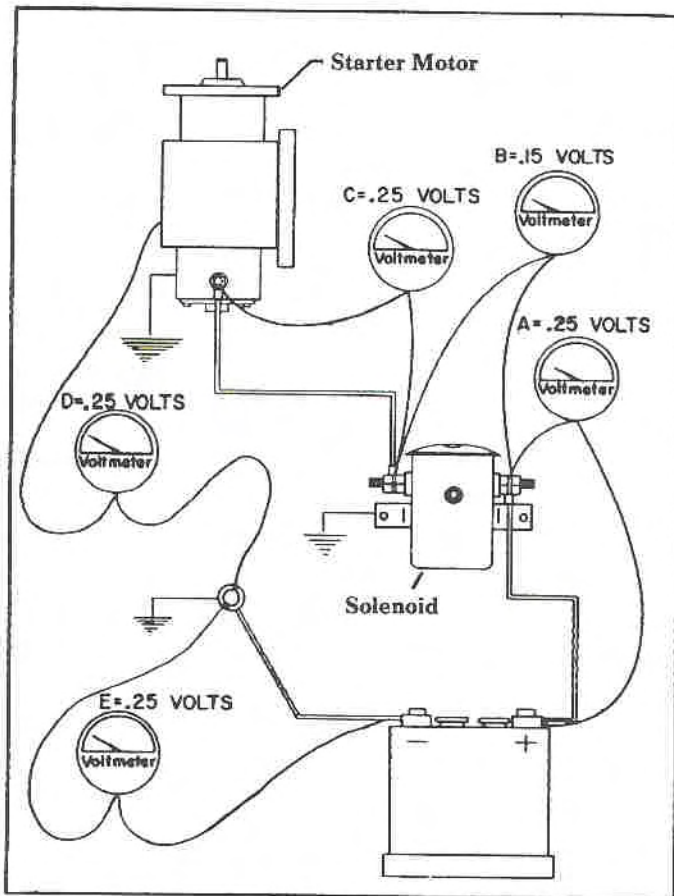

Fig. 4
1. By making a systematic check from the positive battery terminal through the starting circuit and back to the negative battery terminal, any component or electrical connection having excessive resistance, thus causing high voltage drop and subsequent hard starting, can be pinpointed (Figure 4).